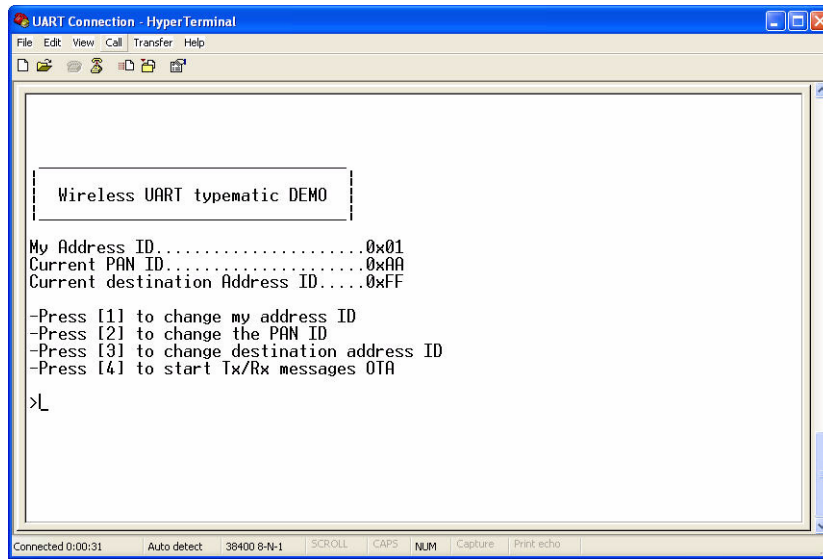

Figure 2-1. Wireless UART Reset UART Start Screen
3. Press the Reset button once on both boards. The terminal displays text as shown in Figure 2-1.